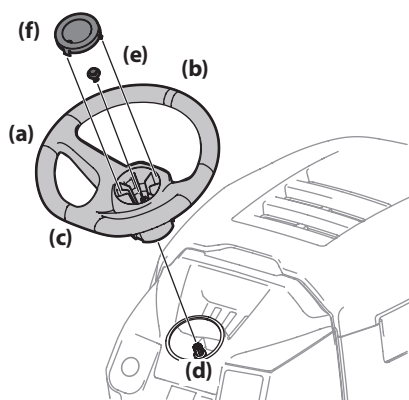

Figure 9
1. With the wheels of the tractor pointing straight forward, align the steering wheel (a) by using the center-line (b) on the front of the steering wheel (a) pointing straight ahead and the flat section (c) of the steering wheel (a) facing toward the seat, place the steering wheel (a) over the steering shaft (d). See Figure 9.
2. Secure the steering wheel (a) with the hex bolt (e) from under the steering wheel cap (f) and torque to 18-22 ft-lbs (24.4-29.8 N-m). See Figure 9.
3. Place the steering wheel cap (f) over the center of the steering wheel (a) and push downward until it "clicks" into place. See Figure 9.
NOTE: The hex bolt (e) securing the steering wheel (a) has thread locker applied to it, so if it is removed, it is recommended that the hex bolt (e) be replaced or thread lock re-applied. See Figure 9.